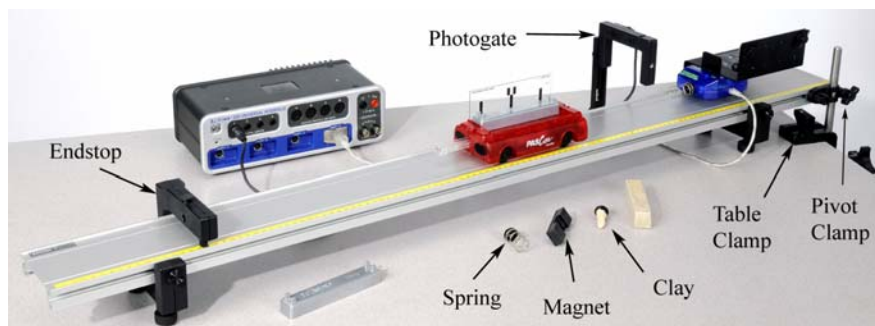

Figure 1: The speed of the cart is measured using a photogate.
1. Attach the Photogate, feet and endstop to the track as shown in Figure 1. Plug the Photogate into Digital Input #1.
4. Attach the Table Clamp with the 45 cm Rod at the end of the table as shown in Figure 1. Fasten the track to the rod using the track Pivot Clamp. This will keep the track from moving during collisions.